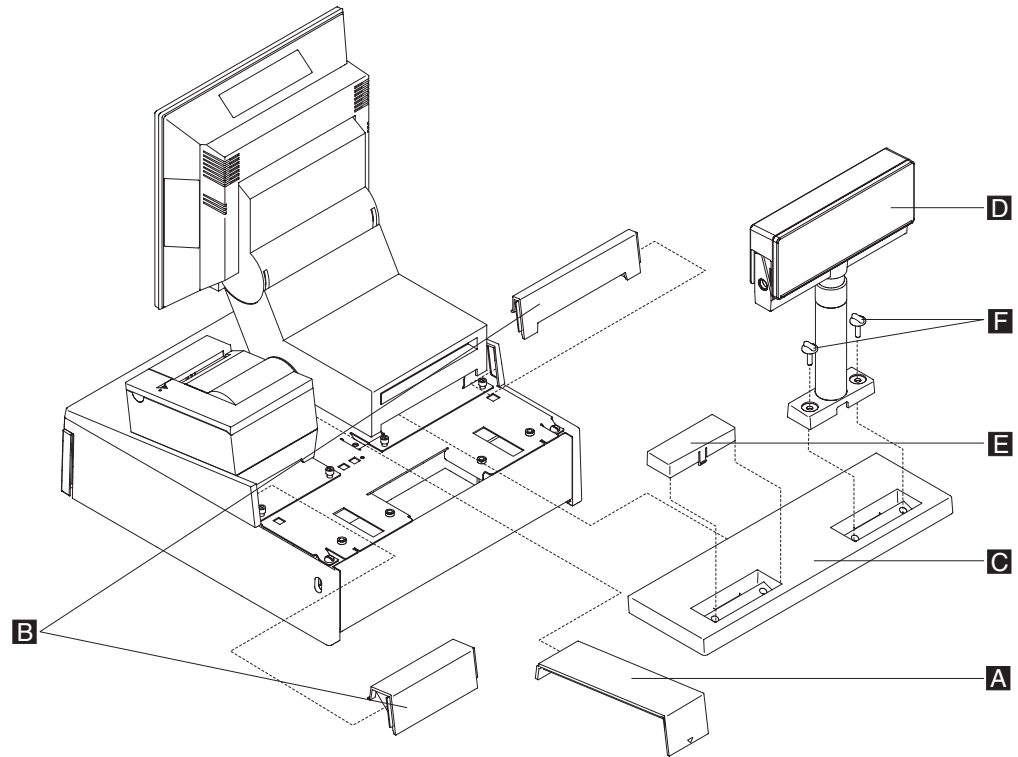

Figure 99. Attaching the distributed character display to the system unit
- a. Remove the filler panels **A** and **B** and the rear modesty panel **C** from the integration tray, as shown in Figure 99.
- b. Remove one of the two plugs **E** in the rear modesty panel. Figure 99 shows one plugged removed with the
- e. Reinstall filler panels **B** first then install **A** in Figure 99.